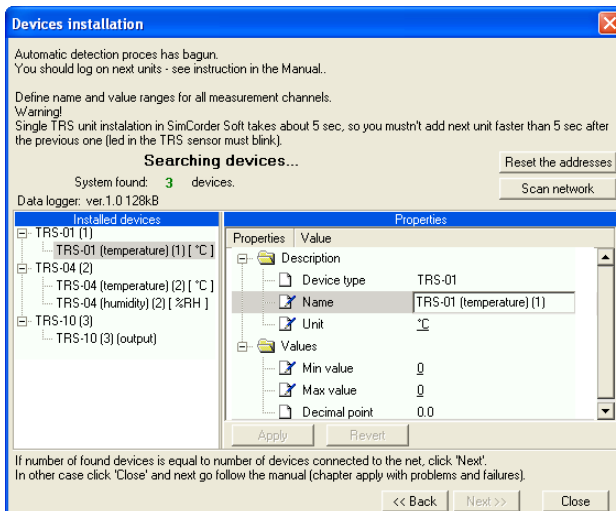

Figure 3.7. Assigning names, units and min/max values
11. Device detection screen allows the assigning of names to detected devices (Figure 3.7). Order of devices on the list corresponds to the order of it's detection by software.